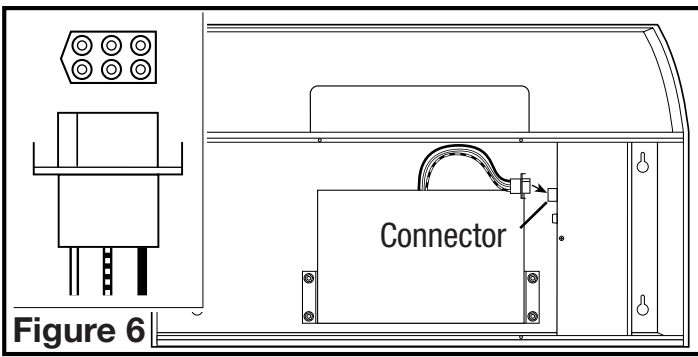

Figure 6
- Plug the blower into the appropriate connector on the side of the wire compartment. It will only fit one way (**Figure 6**).